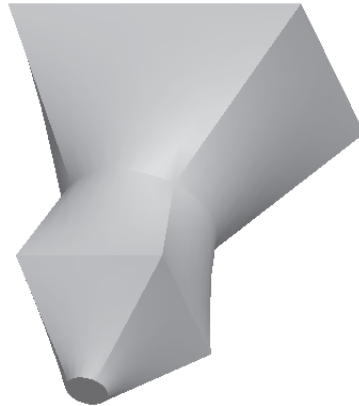

Figure 8-115 Trimetric view of the model
2. Choose the **Default Orientation** option from the **Named View List** flyout; the model orients in the drawing area, as shown in Figure 8-115.